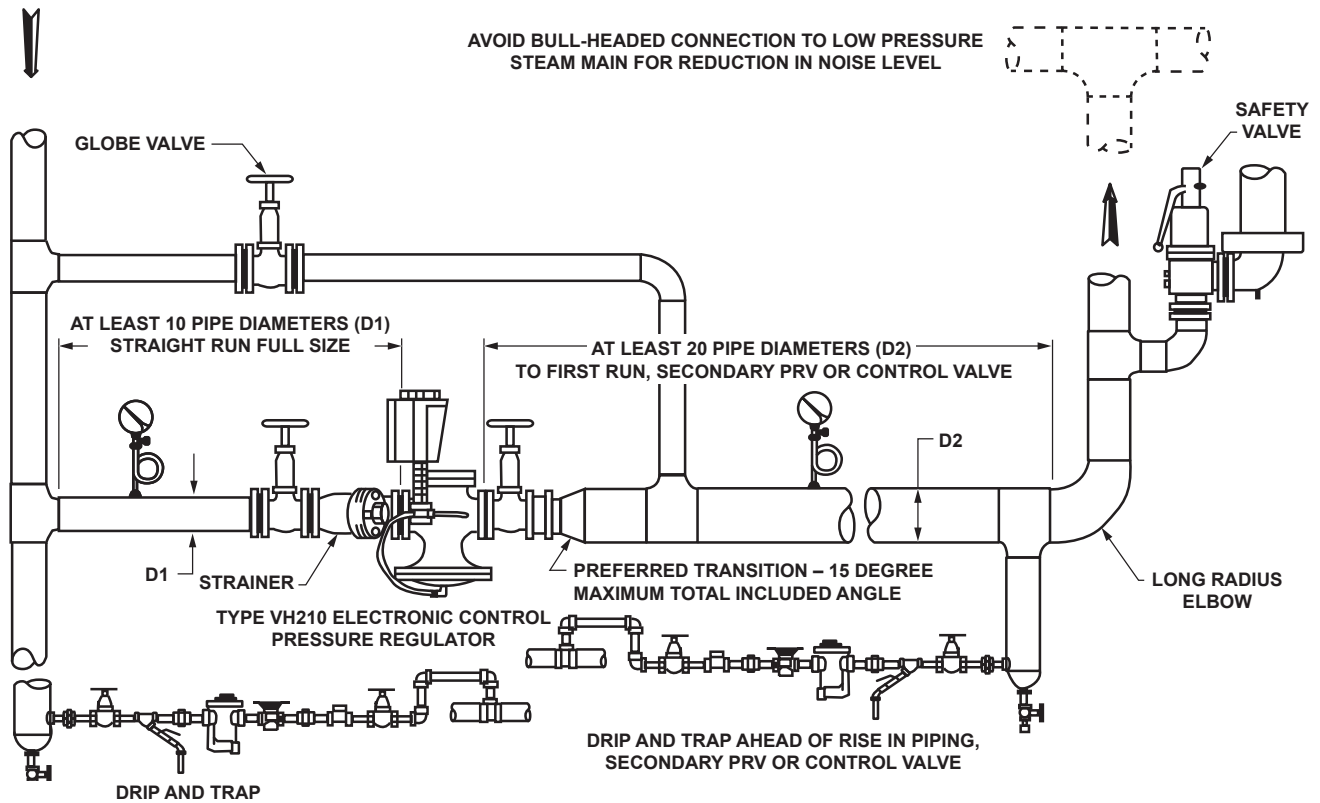

Figure 3. Recommended Installation of Type EVH210 Regulator with Strainer
1. Locate the valve in a straight run of horizontal pipe. See Figure 3.
4. Avoid damaging effects of scale and dirt in pipelines by using a strainer as shown in Figure 3.